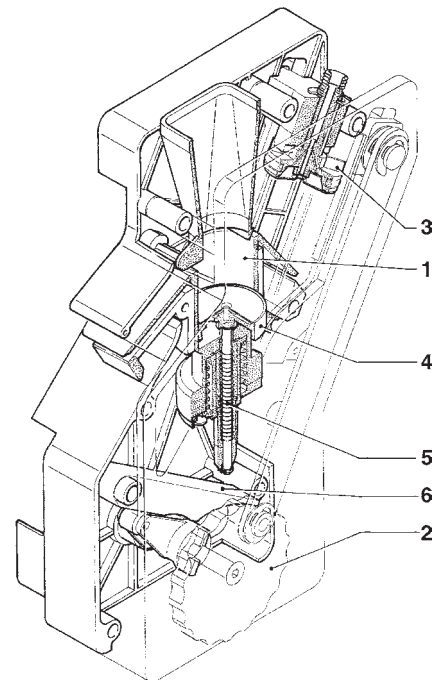

Fig. 10
The coffee falls into the vertical brewing chamber (1) (see Fig. 10).